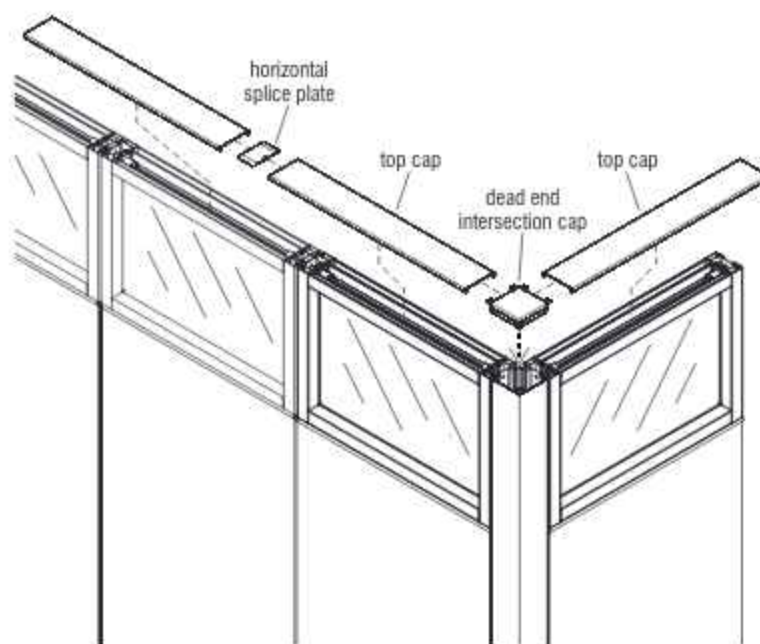

Figure 13 - Stacking Sections (aluminum frame) - Top Cap Installation
1. Top cap installation should begin at an intersection utilizing the appropriate metal intersection cap (see page 64, Detail G - Intersection Caps), by first connecting top caps to the intersection cap. Attach by inserting the tabs of the intersection cap into the narrow slots on the top cap as illustrated (Figures 13 & 14).
2. Each top cap includes one metal horizontal splice plate to align multiple top caps. Insert the splice plate into the end of the top cap and join in-line top caps together before installing to stacking sections (Figures 13 & 14).
4. After all top caps and intersection caps are in place press down along the top cap at all spring clip locations to secure top caps in place (Figure 13 & 14).